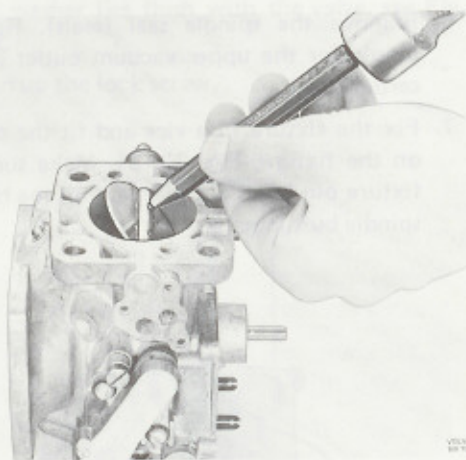

Fig. 23-32. Riveting throttle flap retaining screws
13. Install the throttle and throttle spindle. Centre the throttle and rivet the retaining bolts, Fig. 23-32.